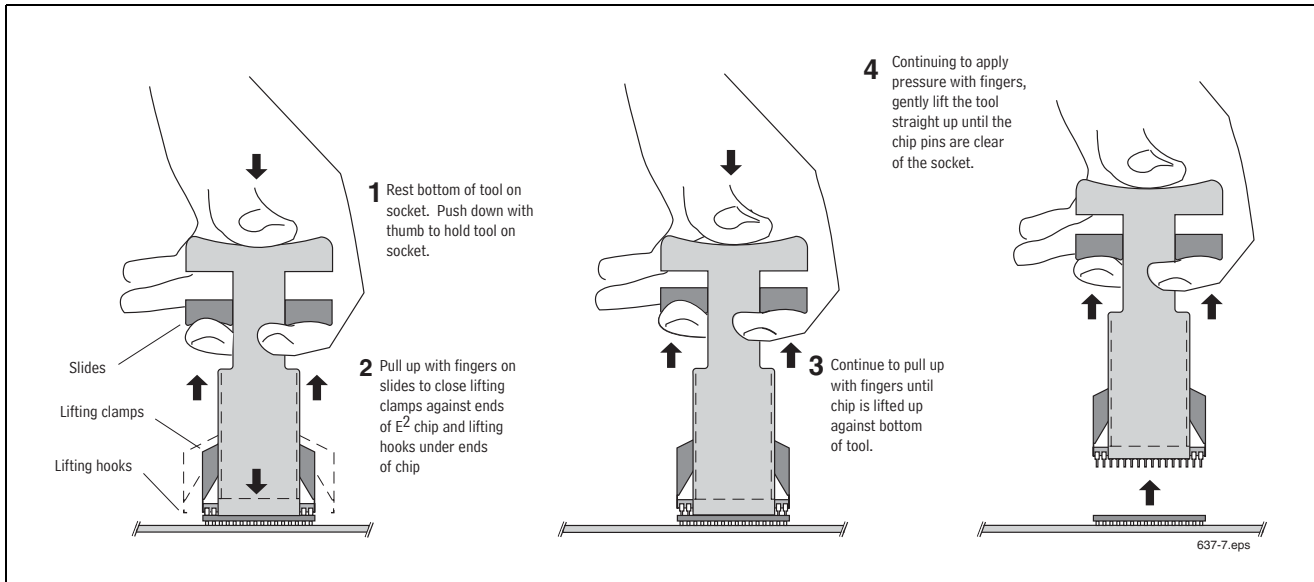
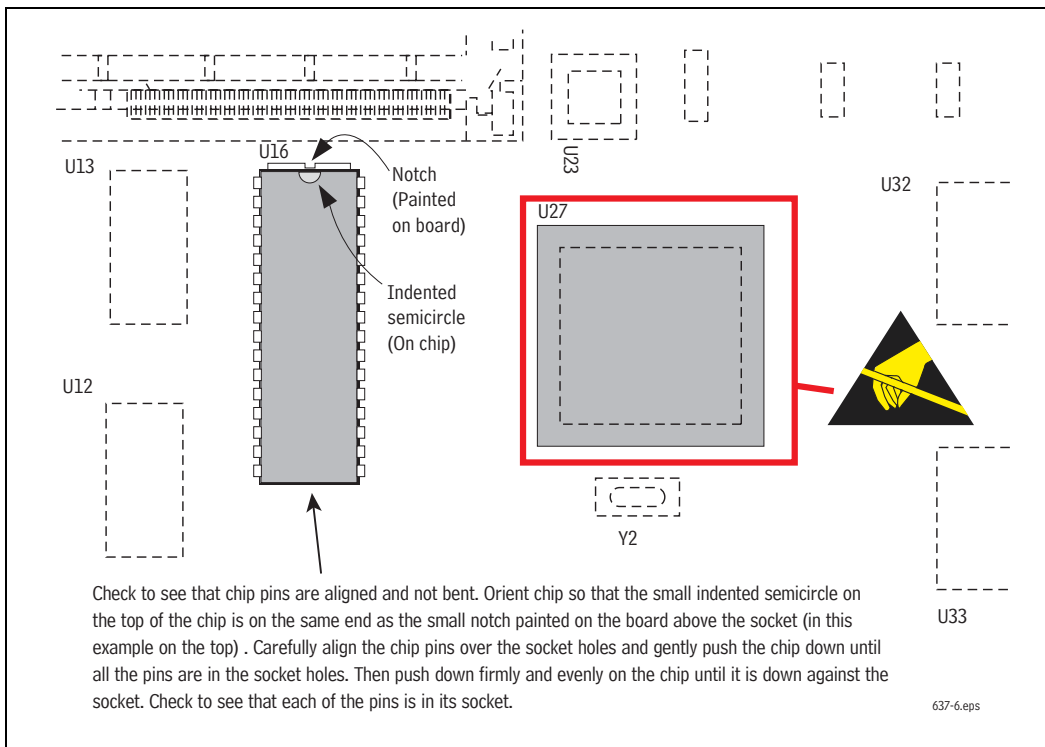
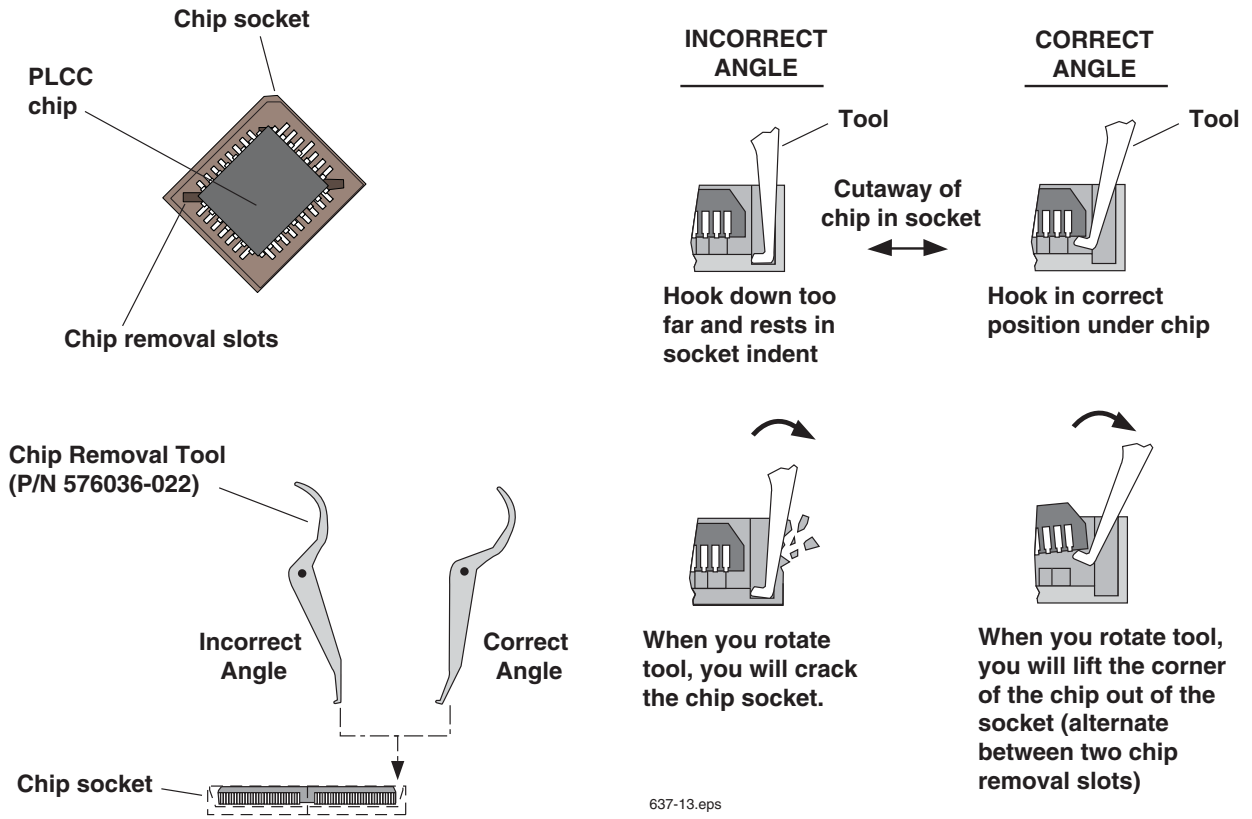

Figure 4. Removing the DIP Type TLS Storage Device from the ECPU Board
Figure 5. Orienting TLS Setup Storage Device DIP Type Prior to Installation
Figure 6. Removing the PLCC type TLS Setup Storage Device
4. Using a chip removal tool similar to the one shown (IC Extraction tool, Digikey Part No. K158-ND, or equivalent), follow the steps outlined in Figure 4 remove the TLS Setup Storage Device from the old ECPU board and install it the identical socket on the new board reversing the procedure shown in Figure 4. Observe chip orientation as shown in Figure 5.
4. Remove the TLS Setup Storage device following the instructions shown in Figure 4 on page 9 or Figure 6 on page 10 as appropriate.
5. Replace the TLS Setup Storage device following the instructions shown in Figure 5 on page 9.